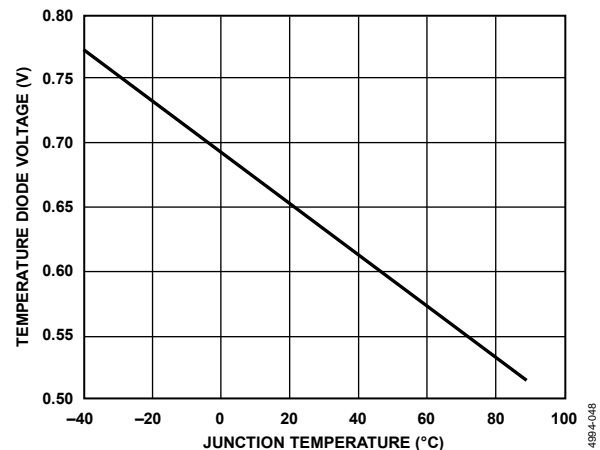

Figure 67. Temperature Diode Voltage vs. Junction Temperature
4. Set Register 0x18E6 to 0x01 to turn on temperature diode export. The typical voltage response of the temperature diode is shown in Figure 67. However, it is recommended to take measurements from a pair of diodes into account when introducing another step.